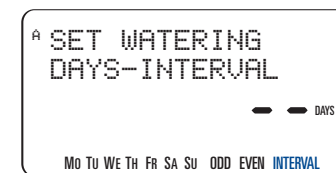

Figure 8: Selecting “Interval Watering”
- Press **NEXT** until "interval" flashes on the display. [See Figure 8]